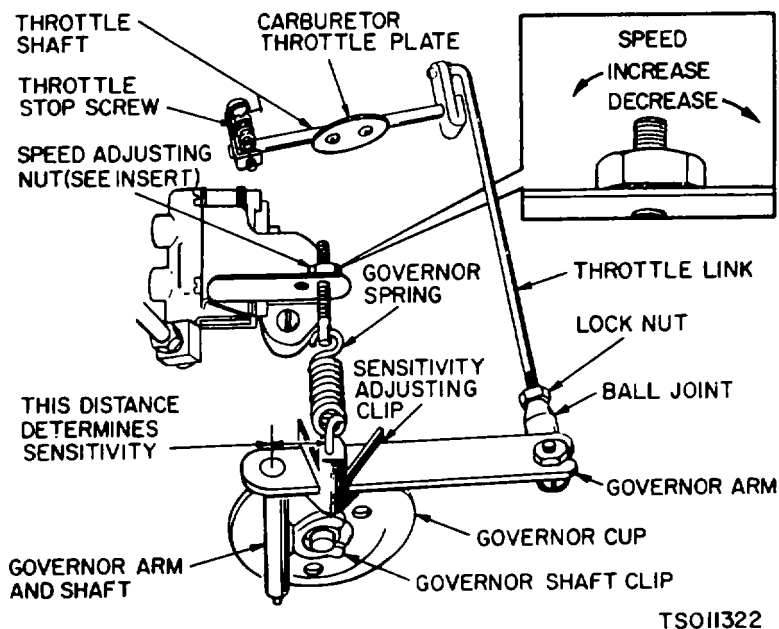
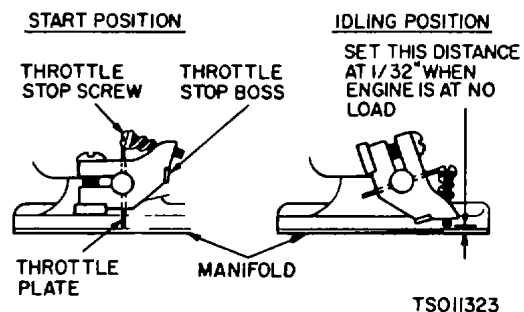

Figure 4-9. Governor System Adjustments
Figure 4-10. Throttle Screw Adjustment
(1) Clean all parts in an approved cleaning solvent. Dry parts with clean lint-free cloth.
(2) Inspect all parts for cracks, breaks, and signs of wear. Examine spring for set or out-of-round. Refer to Direct Support Unit for repair or replacement.
b. Governor System Adjustments (fig. 4-9 and fig. 4-10).
(1) Adjust carburetor for best operation. Refer to paragraphs 4-19c and 4-19d.
(2) Governor linkage adjustment.
(b) Adjust the engine speed by turning the speed adjusting nut clockwise or counterclockwise (fig. 4-9) to increase or decrease speed. Set the no-load speed of the engine at about 1800 rpm. Check speed with a tachometer.
(6) Throttle stop screw adjustment (fig. 4-10). Set the throttle stop screw at 1/32-inch (.080cm) from the manifold when the engine is operating with no load connected.